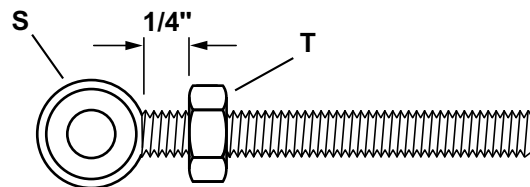

Figure 2
5. Thread a hex nut (T) onto each eyebolt (S) so there is approximately 1/4" of clearance between head of eyebolt and nut. See Figure 2.